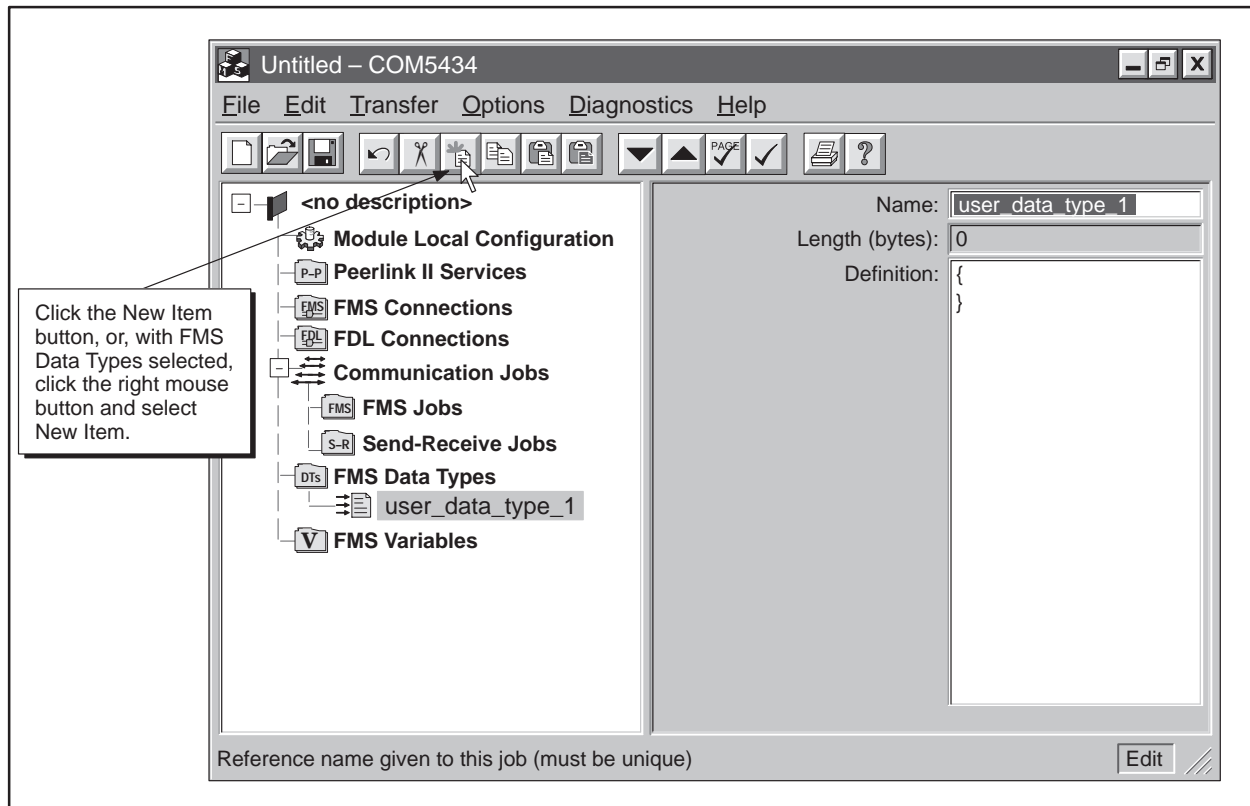

Figure 5-26 Creating a User Data Type
2. Click on the New Item button on the toolbar. A User Data Type appears in the configuration tree and the input fields change (see Figure 5-26).